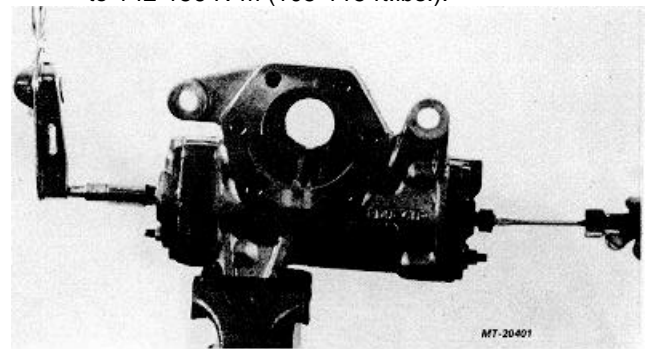

Fig. 35
29. With rack piston (31) near center of steering gear travel, screw adjusting screw (39) into solid height. 14 N•m (10 ft.lbs.) maximum
back adjusting screw out one turn and measure torque required to rotate worm shaft (17), thru 90 deg. each side of center of steering gear travel. This torque must not exceed 1.7 Nm (15 in.lbs.). Tighten adjusting screw and torque nut (38) to 95-109 Nm (70-80 ft.lbs.), after tightening nut torque to rotate worm shaft must rise .45-.79 Nm (4-7 in.lbs.) above torque checked previously (Fig. 35).
30. Apply a generous amount of clean wheel bearing grease to bearing race inside side cover (58) to retain bearing rolls; assemble forty-four bearing rolls. Grease must retain rolls.